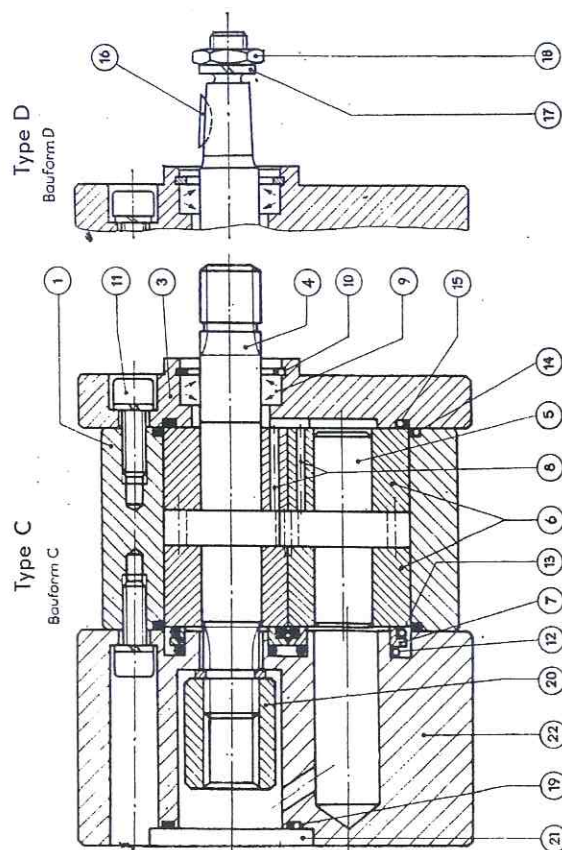

Fig. 4 Gear pumps C and D
For connecting the individual pumps, a primary pump has a connecting plate (22) instead of the cover — in certain cases a connecting and an intermediate plate — together with the coupling (20) and the centering element (21) for the following gear pump. See Fig. 4.